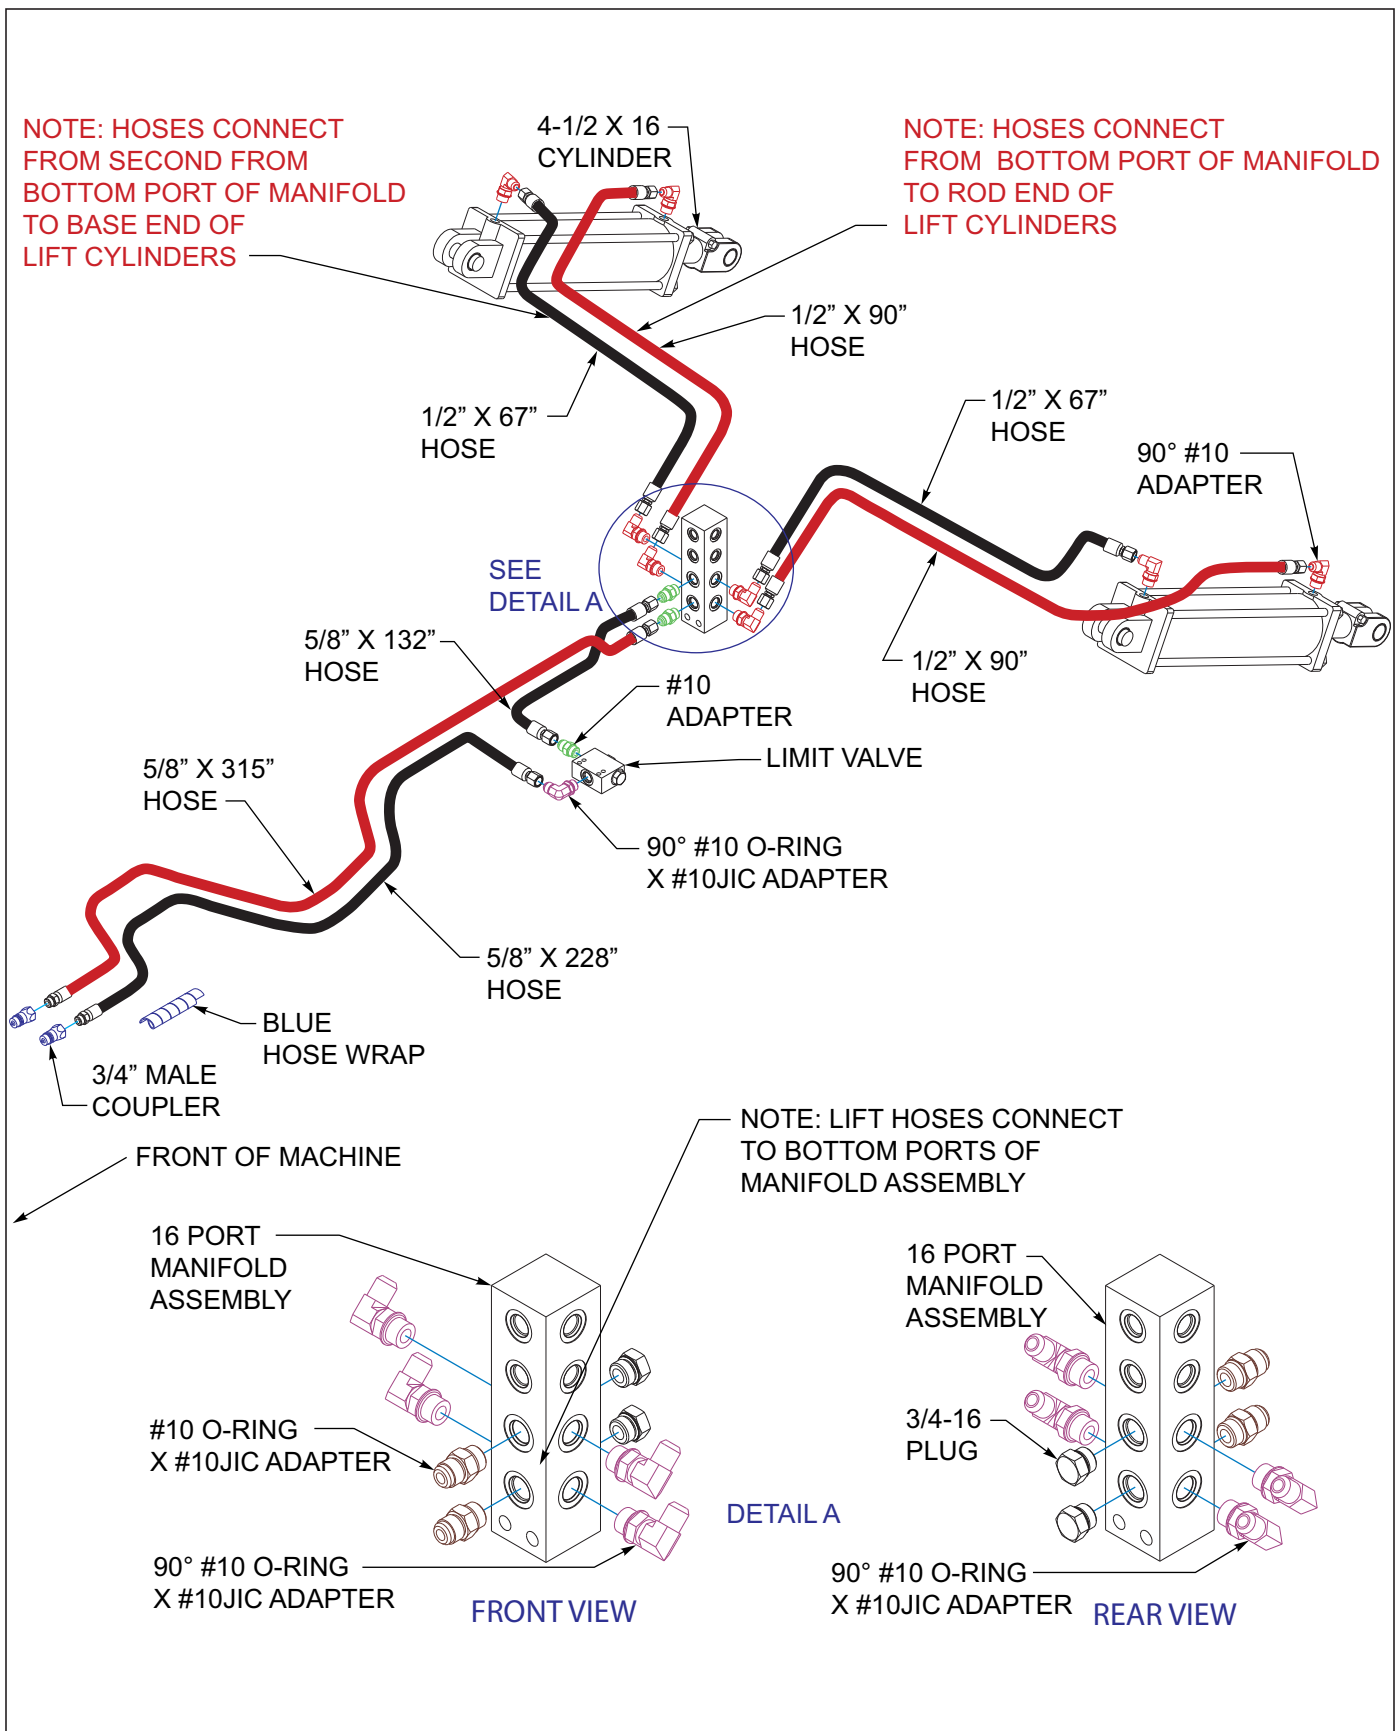

Figure 3-23: Hydraulic Lift Installation 2411AFG-07-09
See Figure 3-23 for hydraulic lift assembly Model 2411-06.
See Figure 3-23 for hydraulic lift assembly Model 2411AFG-07-09.
6. Install hose fittings in manifolds and cylinders as shown **See Figures 3-23, 3-25 and 3-27.**
See Figure 3-23 for hydraulic lift layout.